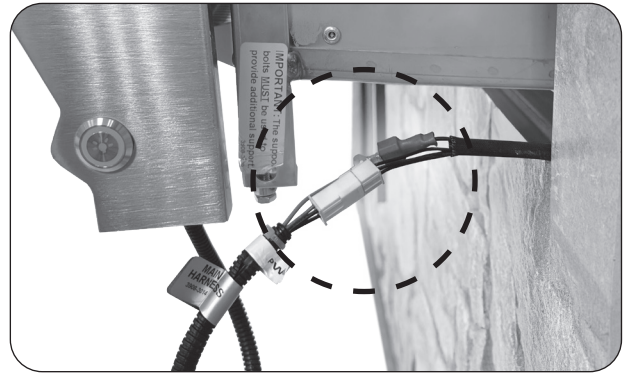

Fig. 29-1 Connect harnesses
2. Carefully slide the unit **PARTIALLY** (slightly more than halfway) into the enclosure cutout and connect the harness extension to the harness coming from the unit. See Fig. 29-1.